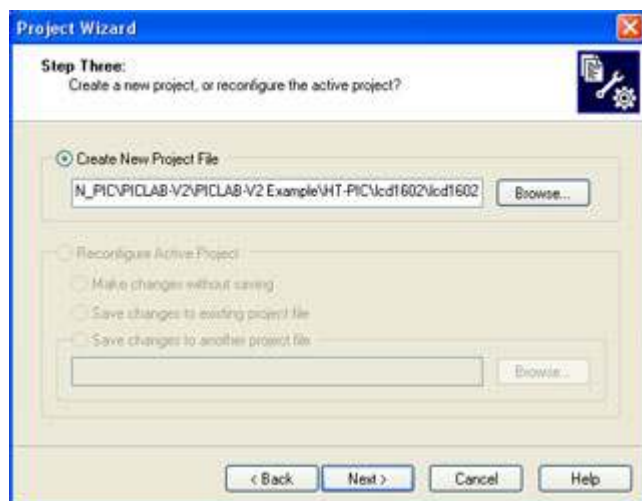

Figure 2-7 Choose directory to save project
Step 4, click "Next", choose the directory where the project is saved and complete the project name, as shown in Figure 2-7.